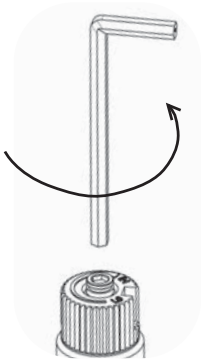

Fig. 2
- 17) Insert a 5/32" or 4mm Allen wrench into the hexagonal key-way of the screw (Fig. 2), rotate it counter-clockwise until it is free and extract it.